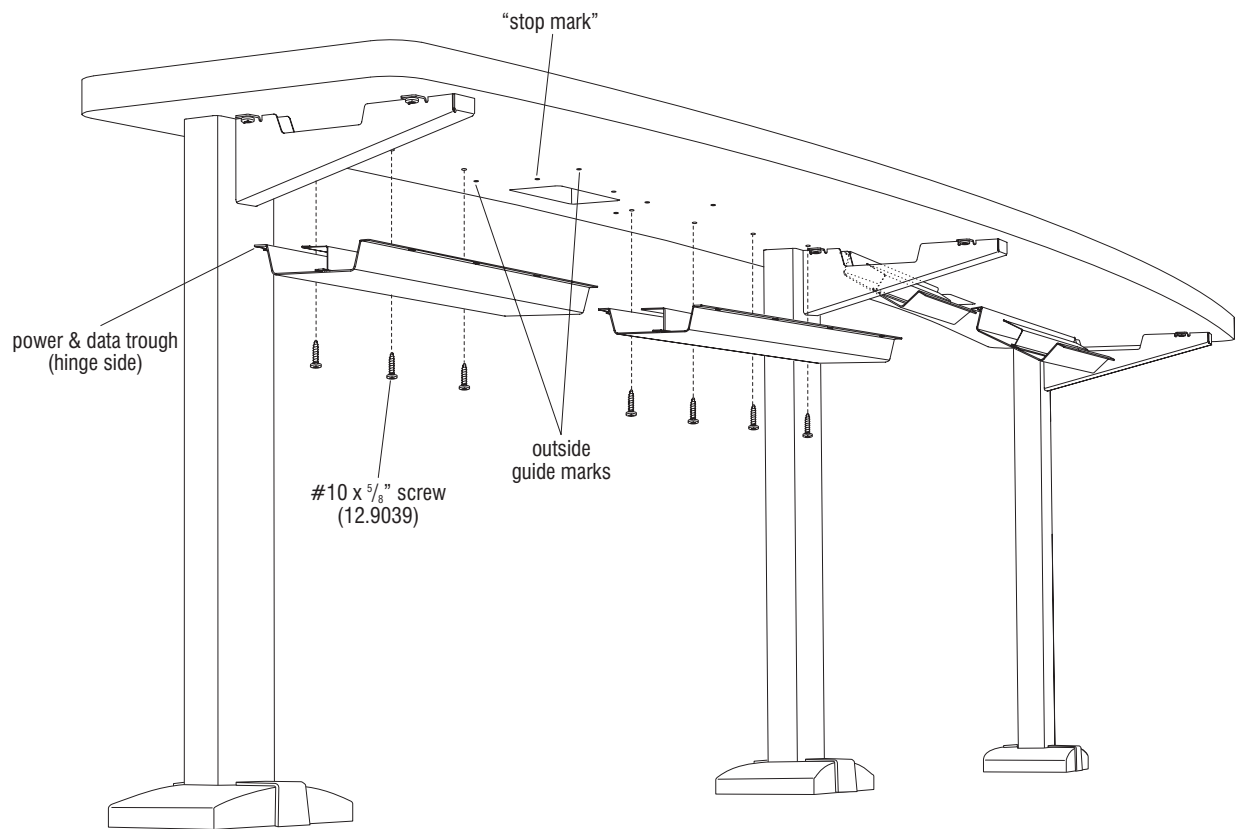

Figure 7
15. Mount the hinged side of the troughs to the underside of the table tops with #10 x  $\frac{5}{8}$ " screws, following closely the guides and positioning described above. Torque screws to 25 in/lbs. Leave the hinged troughs open (Figure 7).